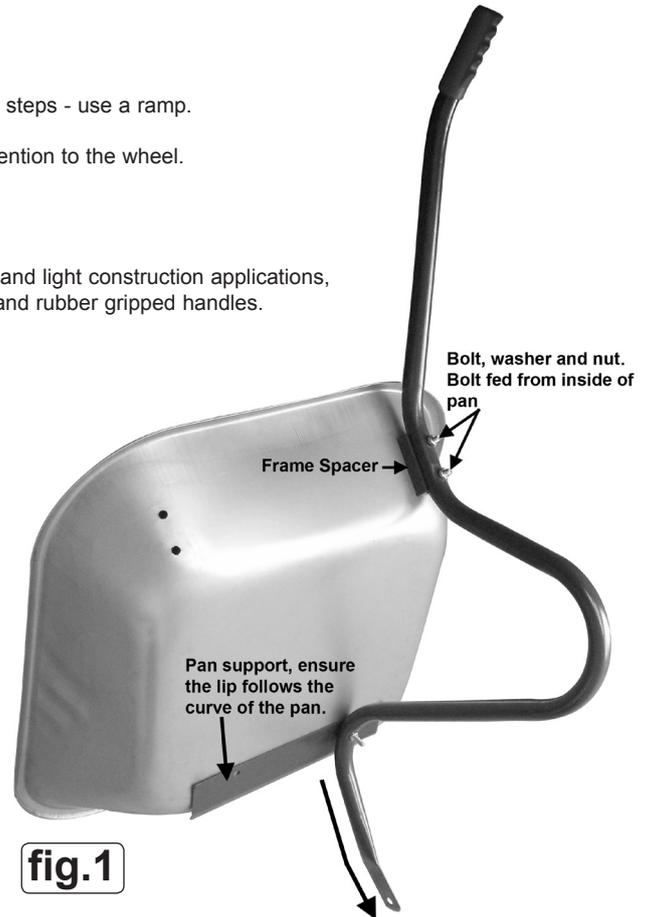

fig.1
- 3.3 Place a frame spacer between the frame and pan over the pre-drilled holes (fig.1).
- 3.5 Place the pan support between the frame and pan where the two single drilled hole are, ensure the support is around the correct way and the kink follows the curve of the pan (fig.1).